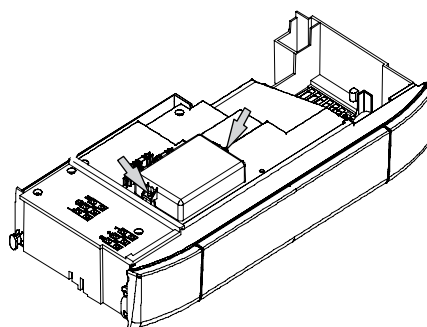

Figure 12.11
- Remove the two screws shown in Figure 12.11 and open the **external probe** connection terminal board.
Unscrew the screws and remove the terminal board cover (Figure 12.11). See also the REMOTE CONTROL manual to connect the remote control to the boiler.